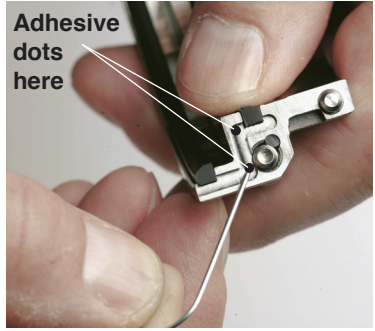

Figure 11
5.3 Put one dot of adhesive near the outer corner. See Figure 11.